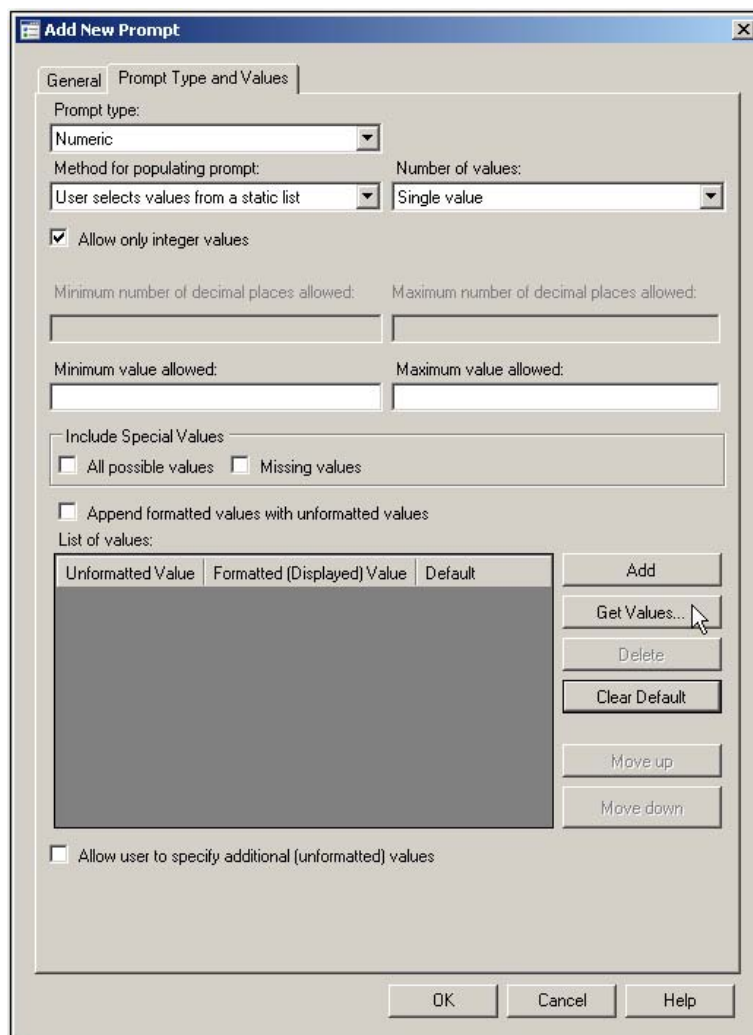

Figure 5. Add New Prompt Window: Numeric
10. Select **Get Values...** located near the bottom right of the window to populate the prompt with the values of the column **Order_Type**. See Figure 5 below.